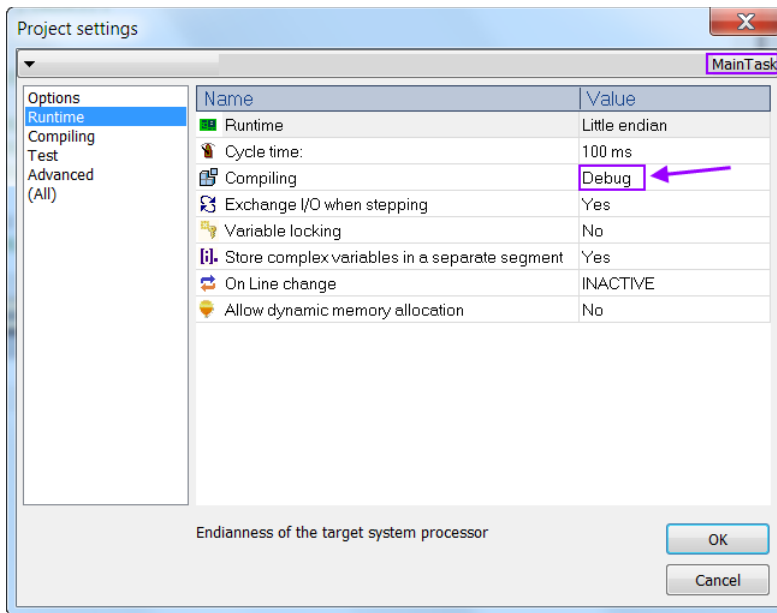

Figure 119: Set compiler in debug mode
- Step by step debugging is available only if the project has been compiled with the debug option (Figure 119). This option can be selected from the project settings dialog box ('Project\Settings...'). Make sure that the compiler for the task which needs to be debugged is set into debug mode. The compiler for other task can be left in release mode.